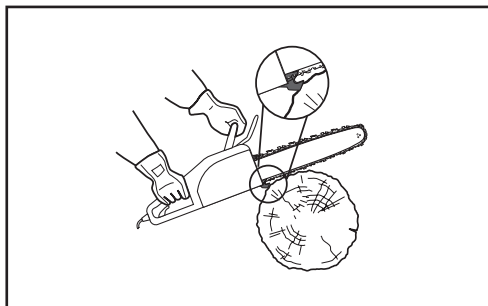

Fig. 19
5. Ensure the saw chain (8) is running at full speed before it makes contact with the wood. Use spiked bumper (4) to secure the product onto the wood before starting to cut and use it as a leverage point while cutting (Fig. 19).